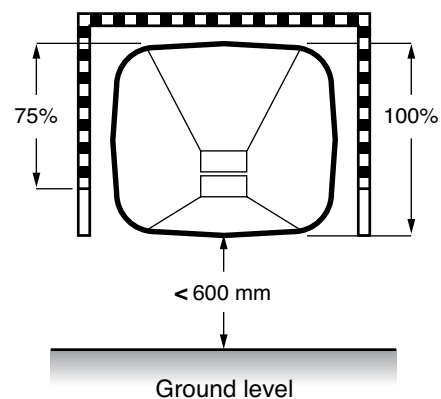

Figure 2 Position of protection devices on infeed chutes below 600 mm from ground level
For chutes of this design, make sure that the protection device is located at the **sides and upper edge** of the chute (see Figure 2).
- covers a minimum of 75% of each vertical projection at the sides of the chute and 100% of the horizontal projection at the top or bottom of the chute, as appropriate for the machine according to the height of the outermost lower edge, ie below or above 600 mm (see Figures 2, 4 and 5);
- does not require a force greater than 150 N on the horizontal part of the device(s) and 200 N on any point of the 75% projection as shown in Figures 2, 4 and 5 (this can be measured using a spring balance – 10 N equals approximately 1 kg of pulling force);